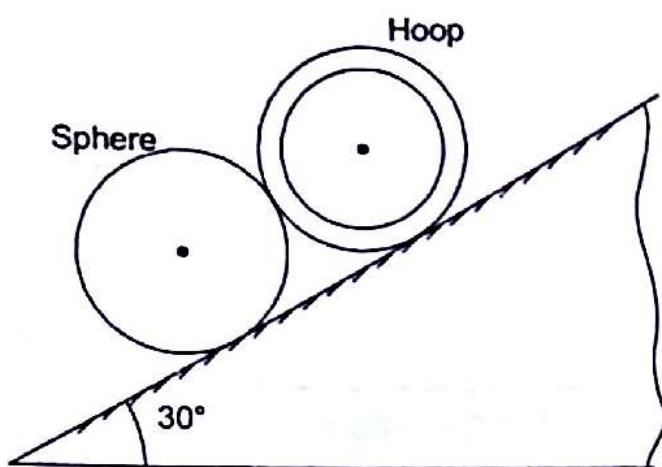

Fig. 17.11
- 17.2** A solid homogeneous sphere and a hoop are in contact when they are released from the state of rest. Mass and radius of both are the same, as shown in Fig. 17.11. If they roll without slipping, what are their velocities after 3 seconds from start.